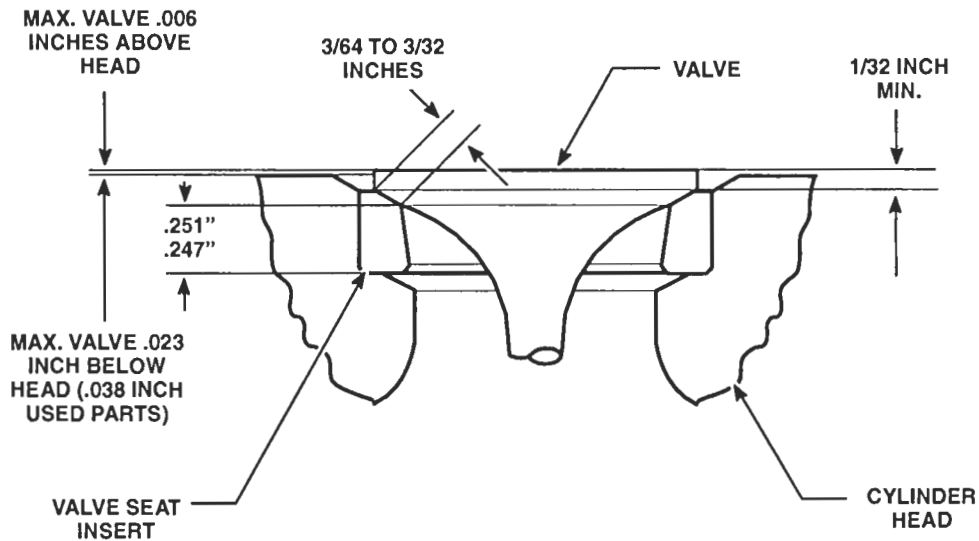

Figure 13. Valve Resurfacing
Before either a new or used valve is installed, examine the valve seat insert (Figure 13.) in the cylinder head for proper valve seating. The proper angle for the seating face of the valve is 30° and for the valve seat insert it is 31°.
3. Grind the top surface of the insert with the 15° wheel to narrow the width of the seat to the dimensions shown in Figure 13. The 31° face of the insert may be adjusted relative to the center of the valve face with the 15° and 60° grinding wheels. Do not permit the grinding wheel to contact the cylinder head when grinding the insert. When an insert has been ground to the extent that the grinding wheel will contact the cylinder head, install a new insert.
The maximum amount the exhaust valve should protrude beyond the cylinder head (when the valve is closed) and still maintain the proper piston–to–valve clearance (Figure 13.). Grinding will reduce the thickness of the valve seat insert and cause the valve to recede into the cylinder head. If, after several grinding operations, the valve receded beyond the specified limits, replace the valve seat insert.